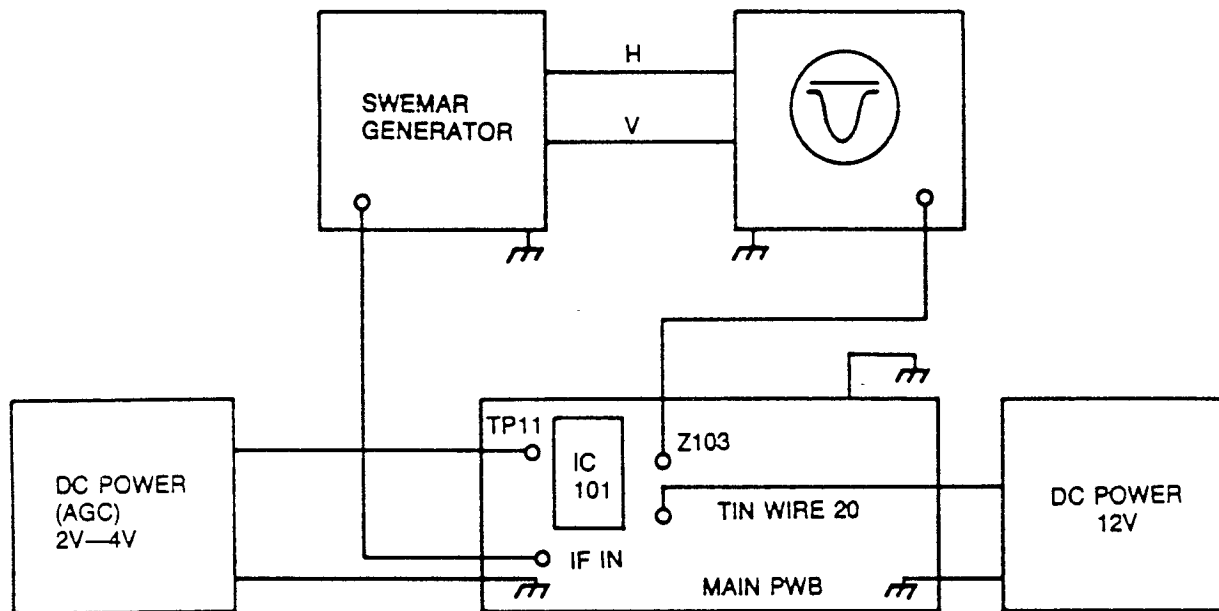

Figure 9 Connection Diagram for VIF and AFT Alignment
1. Connect each equipment to the main board as shown in figure 9 and turn each power supplier on.
1. Tester connection is the same way as shown in figure 9 except scope connection.